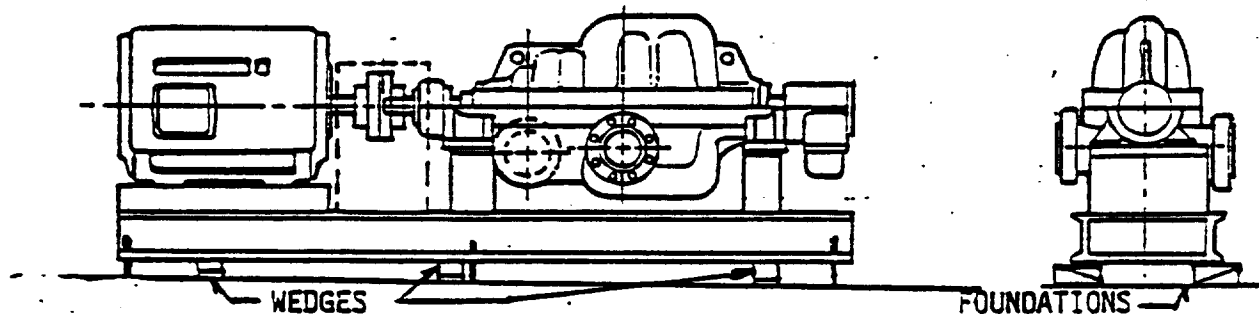

FIGURE 2
3. Put the unit in place on wedges. THE WEDGES SHOULD BE PLACED AT SIX POINTS AS SHOWN IN FIG. 2. Some long installations may require additional wedges near the middle of the bedplate.